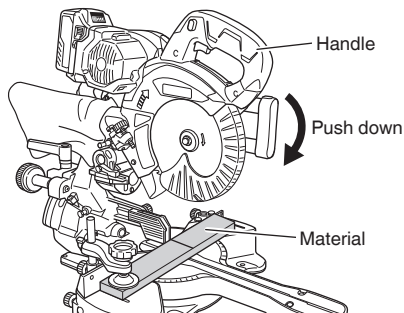

Fig. 47
- (2) Turn on the switch, and after the saw blade rotation has stabilized, gently push down the handle to bring it closer to the material. (Fig. 47)